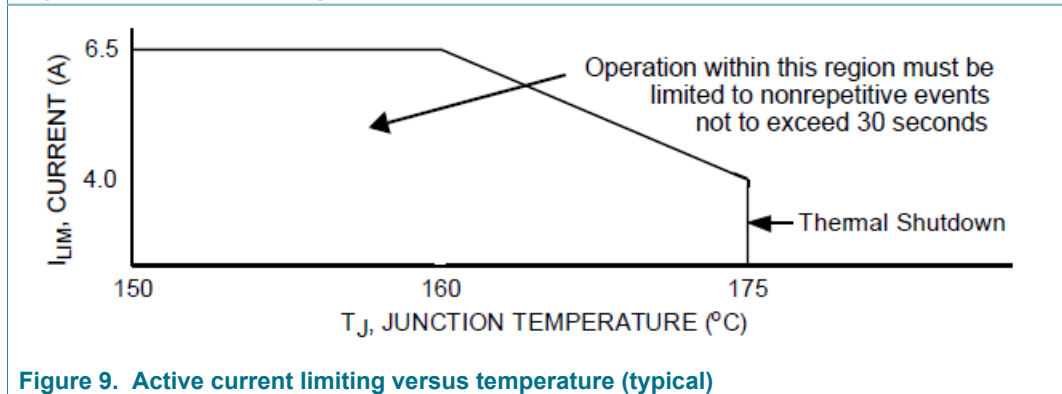
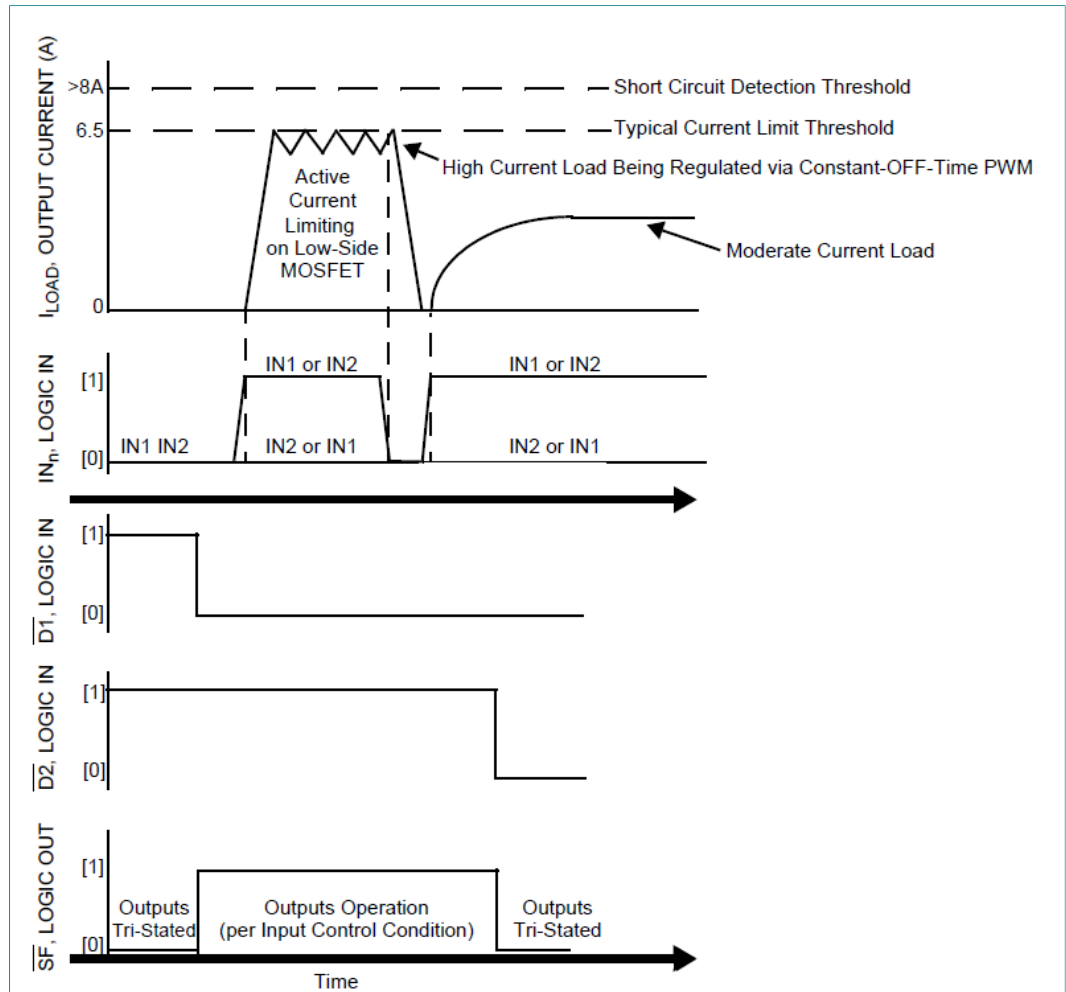

Figure 9. Active current limiting versus temperature (typical)
Figure 10. Operating states
- [5] Load currents ramping up to the current regulation threshold become limited at the  $I_{LIM}$  value. The short-circuit current possess a  $di/dt$  that ramps up to the  $I_{SCH}$  or  $I_{SCL}$  threshold during the  $I_{LIM}$  blanking time, registering as a short-circuit event detection and causing the shutdown circuitry to force the output into an immediate 3-state latch OFF. See Figure 10 and Figure 11. Operation in current limit mode may cause junction temperatures to rise. Junction temperatures above  $\sim 160\text{ }^\circ\text{C}$  causes the output current limit threshold to progressively foldback, or decrease with temperature, until  $\sim 175\text{ }^\circ\text{C}$  is reached, after which the  $T_{LIM}$  thermal latch OFF occurs. Permissible operation within this foldback region is limited to nonrepetitive transient events of duration not to exceed 30 seconds. See Figure 9.
The current limiting threshold value is dependent upon the device junction temperature. When  $-40\text{ °C} \leq T_J \leq 160\text{ °C}$ ,  $I_{LIM}$  is between 5.2 A to 7.8 A. When  $T_J$  exceeds 160 °C, the  $I_{LIM}$  current decreases linearly down to 4.0 A typical at 175 °C. Above 175 °C the device overtemperature circuit detects  $T_{LIM}$  and overtemperature shutdown occurs (see Figure 9). This feature allows the device to remain operational for a longer time but at a regressing output performance level at junction temperatures above 160 °C.